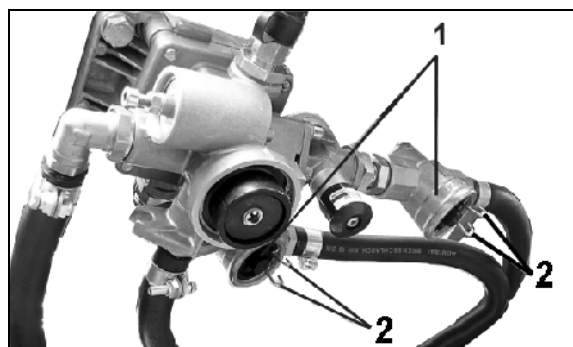

Fig. 74
Clean the two line filters (Fig. 74/1) every 3 months (more frequently in harsh operating conditions). Proceed as follows to do so:
- (1) Press the two lugs (Fig. 74/2) together and remove the locking piece with the O-ring, pressure spring, and filter insert.
- (2) Clean (rinse out) the filter insert with petrol or thinner and then dry it with compressed air.